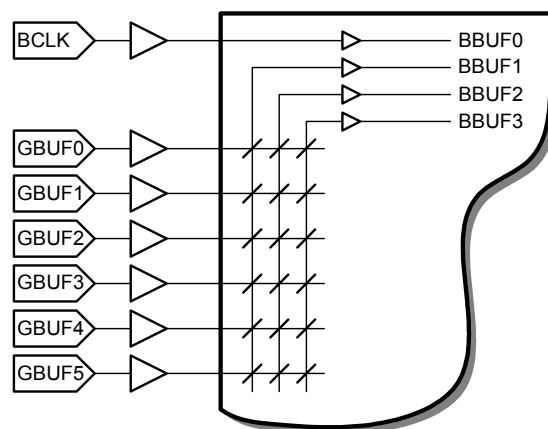

Figure 21. The bus clock signal and any 3 of the 6 global buffer signals are available within a CSL bank.
- **Bus clock and 3 of 6 global buffer signal lines** in every vertical channel, as shown in Figure 21. The bus clock signal is distributed globally to all resources on an A7S CSoC device. Within a CSL bank, any three of the six global buffer signals are available.